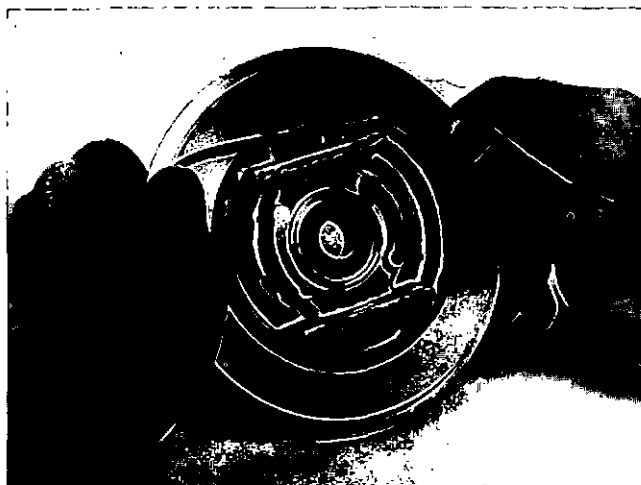

Fig. 4-29, (T465081). Install the O-ring onto the oil seal plate
O-ring (2) into the O-ring groove of the oil seal plate, Fig. 4-29.